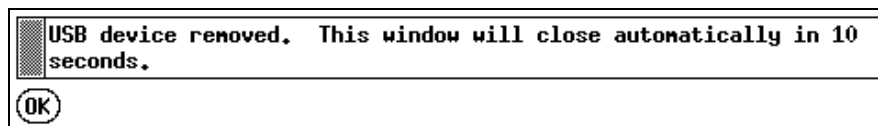

Figure 14-79 OSA Advanced Facilities: removable media removed
9. You can now remove the USB flash memory drive at any time. When you do, the HMC message advises you that the USB flash drive is removed (Figure 14-79). Click **OK**.